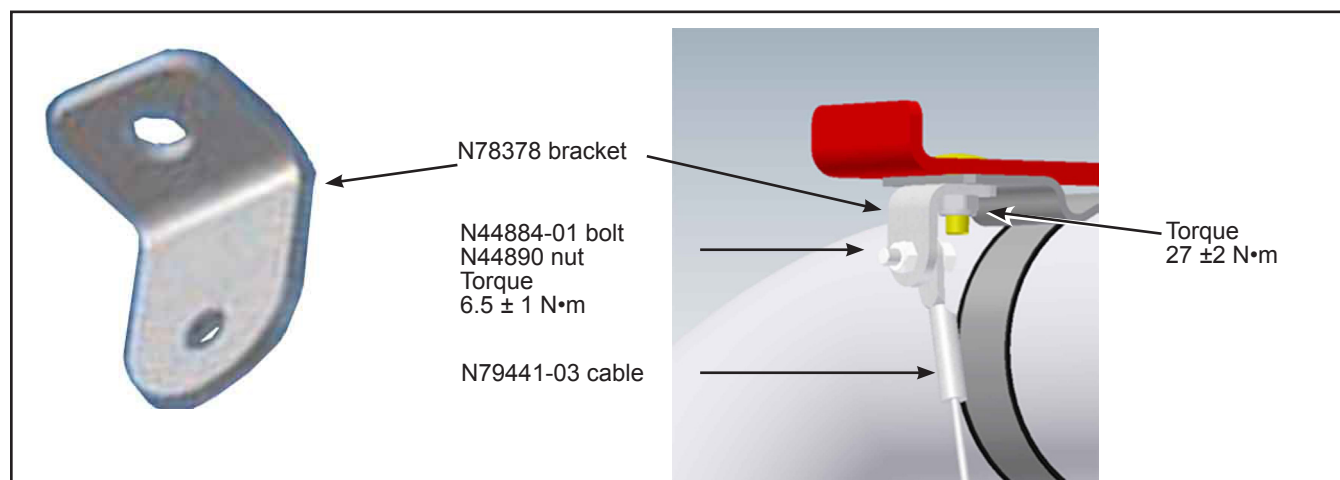

Figure 2 - Upper Support Installation
- 1.4. Install the N78378 bracket on the charge air cooler air pipe's front bolt support. See Figures 2 and 4.